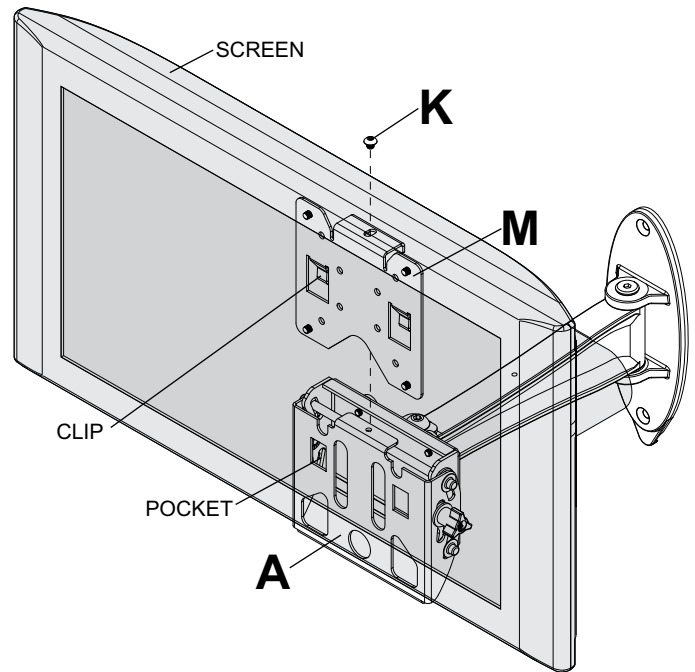

fig. 3.1
- 3** To attach screen to wall mount (A), lower hook bracket (M) into pockets of wall mount. Once clips are engaged, push down to seat clips into pockets. Insert and tighten M5 phillips screw (K) to lock screen to wall mount as shown in figure 3.1.